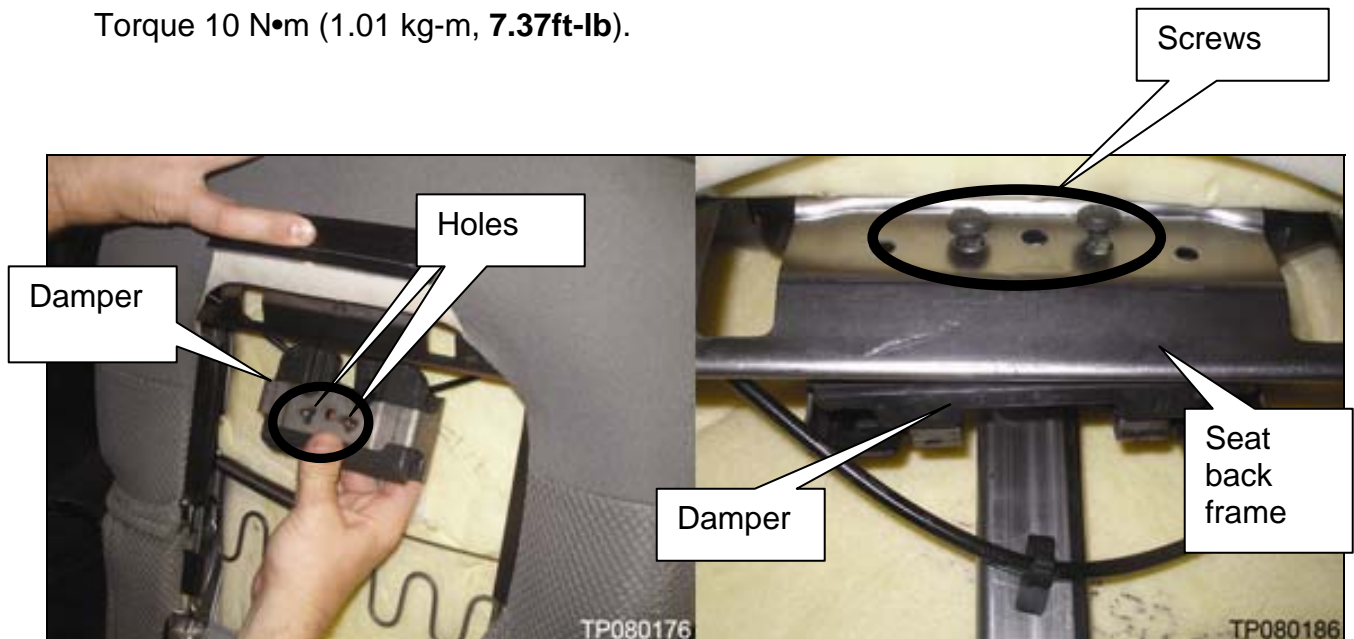

Figure 6
d. Slide damper into seat back frame and align holes on seat back frame with the holes located on the damper. See Figure 6.
e. Install 2 screws. This will attach the damper to the seat back frame. See Figure 6.